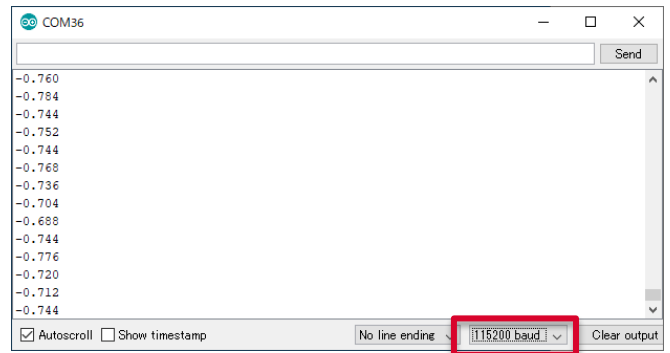

Figure 6. Serial Monitor
5. Set baudrate to 115200 and check log of Serial Monitor (Figure 6)